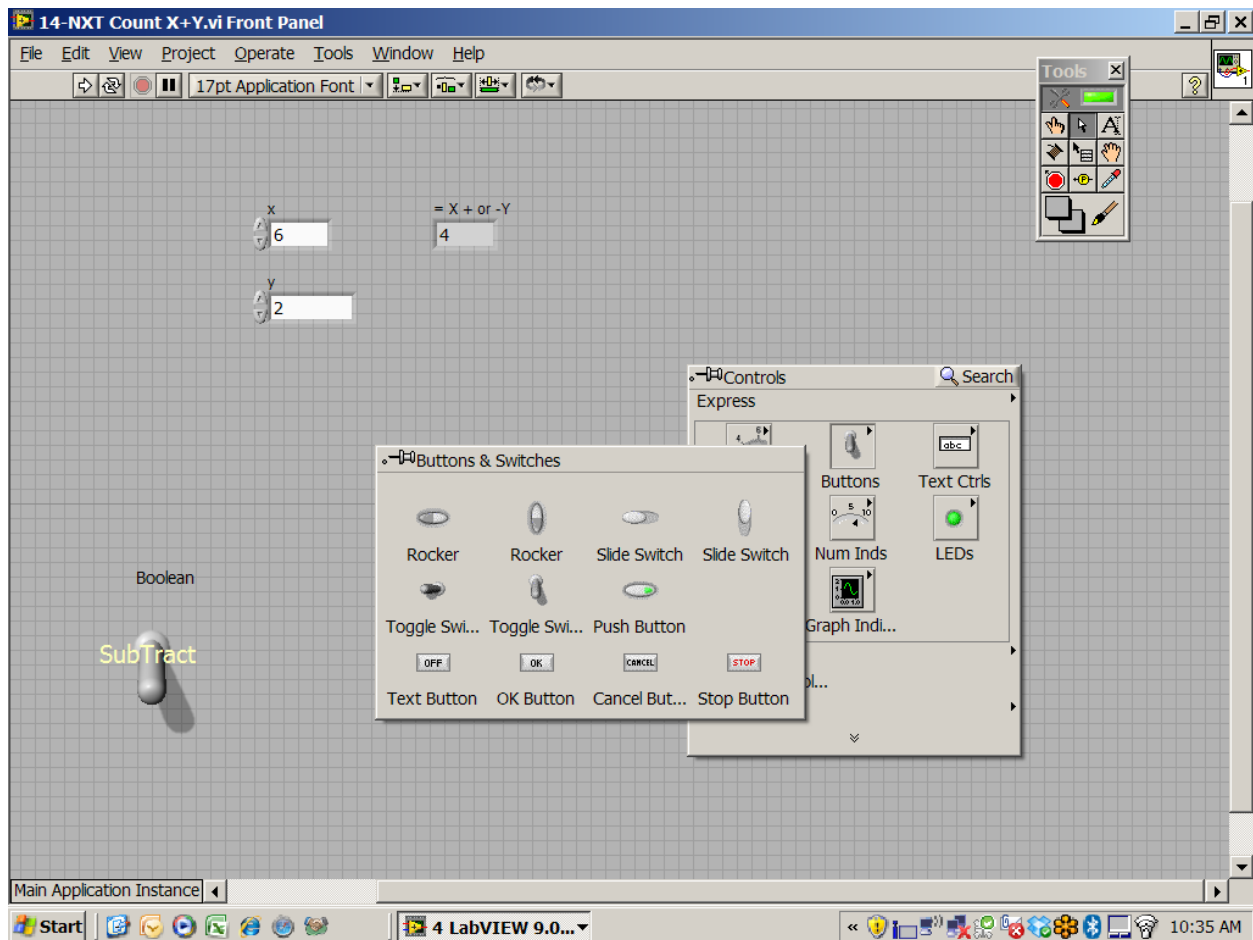

Figure 1.
9. Go back to the Front Panel and create two Numeric Controls that will allow the two values that will be added/subtracted to be entered. A Numeric Indicator will also be needed to display the result. These Numeric Controls and Indicators can be accessed from Controls > Numeric sub-pallet. See Figure 1.
15. Go back to Front Panel (figure 1) and enter two values in our controls. Let’s try 7 and 2 and put the switch in add mode. Click the Run button and our Indicator will display 9.